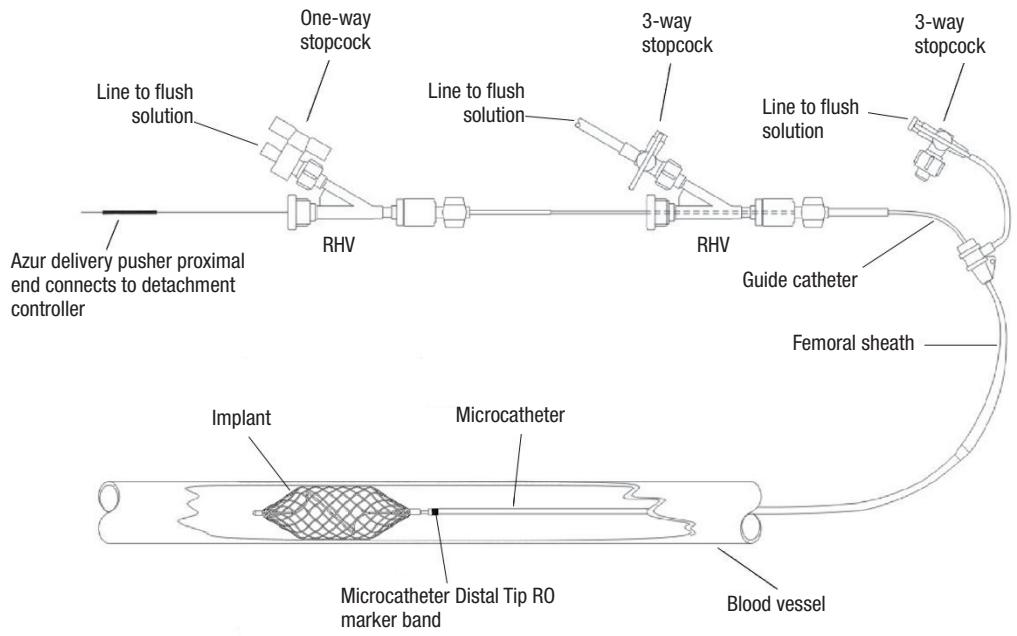

Figure 1 – Diagram of Azur System Setup
- Refer to Figure 1 for the set-up diagram.